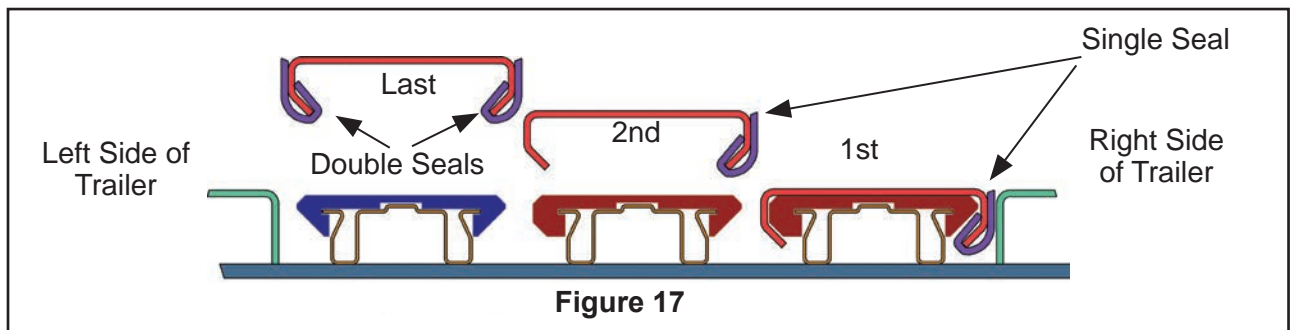

Figure 17
- Ensure J-Seals are fully seated along the entire length of slats (install position).** Starting on the right side of the trailer, slide the single seal pre-assembled floor slats over the bearings, until the pre-drilled holes in the slats line up with the holes in the drive shoes OR if the slats are not pre-drilled slide the slats over the bearings until the slat assembly is 1" [25 mm] from the inside of the rear door. The last slat installed on the left side of the trailer will have double seals. (See Figure 17)